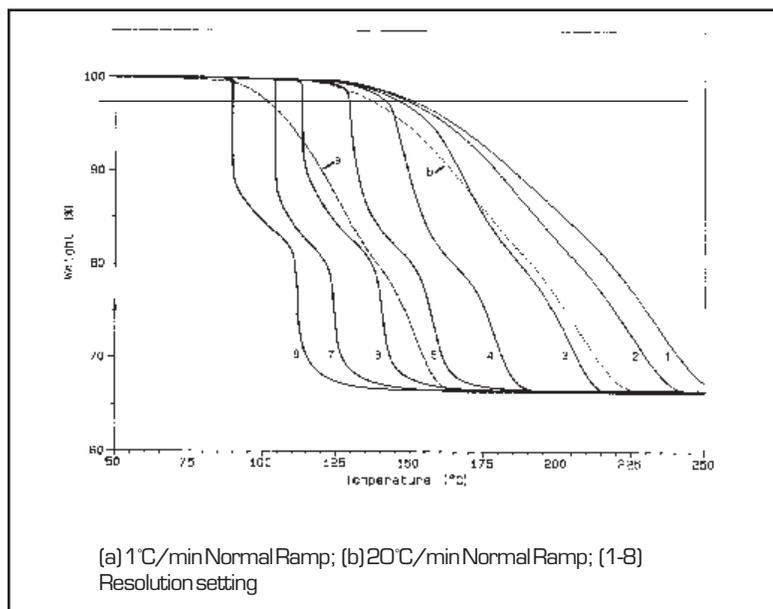

Figure B.13
- *Resolution setting* controls the temperature at which the transition will occur (*i.e.*, how far from the theoretical isothermal decomposition temperature) by selecting the reaction rate (%/minute) at which heating rate is reduced. The closer the reaction is to the isothermal decomposition temperature, the lower the reaction rate and the longer the reaction time. You will find that you can use the resolution setting to literally move the measurement of transitions on the temperature axis. (See Figure B.13, page B-61.)
In Figure B.13, we have overlaid the conventional constant heating rate decompositions of the bicarbonate mixture (curves *a* and *b*) with dynamic rate Hi-Res™ scans at eight different resolution settings (curves 1 through 8). All of the Hi-Res™ scans were run at 50 °C/minute with the default sensitivity setting of 1.0.
Comparing curve *b* with curves *a* and *d* reveals a significant improvement in resolution because of the vapor pressure buildup in the semihermetic sample container. Because the sample pan was open in curve *b*, there was no opportunity for a vapor pressure/reaction rate equilibrium to occur as the sample decomposed, resulting in only partial separation of the transitions. The pressure buildup in the closed container (curves *a* and *d*) retarded the potassium bicarbonate decomposition until the sodium bicarbonate decomposition had completed. As with dynamic rate mode (Figure B.13), a higher resolution setting (larger negative number) reduces the transition temperature.